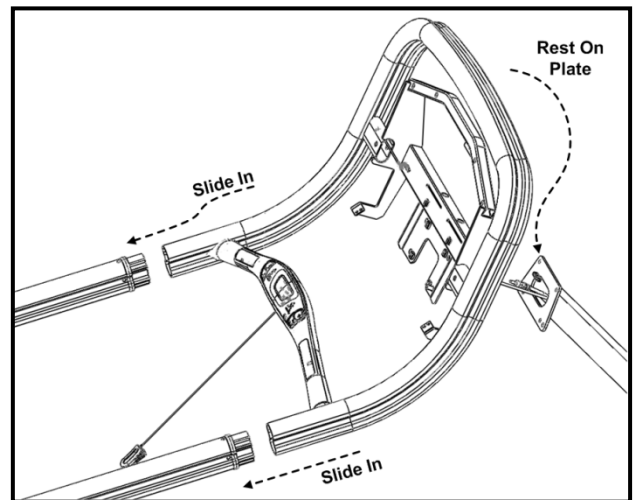

Fig. 11
- Slide the console frame onto each upper handrail (Fig. 11) and rest the center of the console frame on top of the neck mast plate.